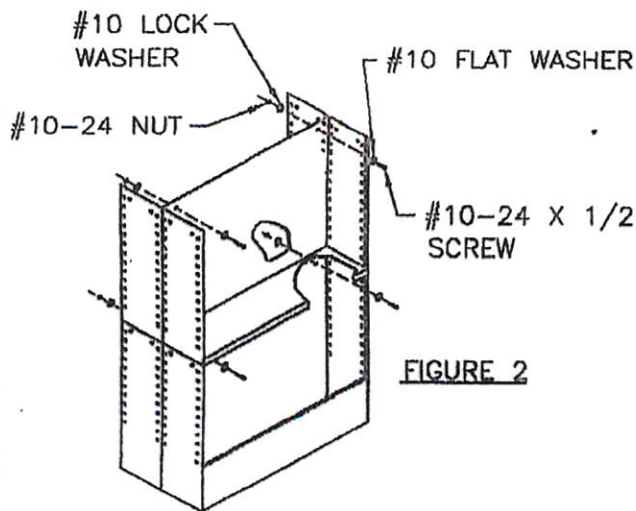

FIGURE 2
2. To attach units back-to-back:(FIGURE 2)
- b.) Fasten units together with (4) #10-24×1/2 machine screws,washers and nuts through the top and center slotted holes as shown.